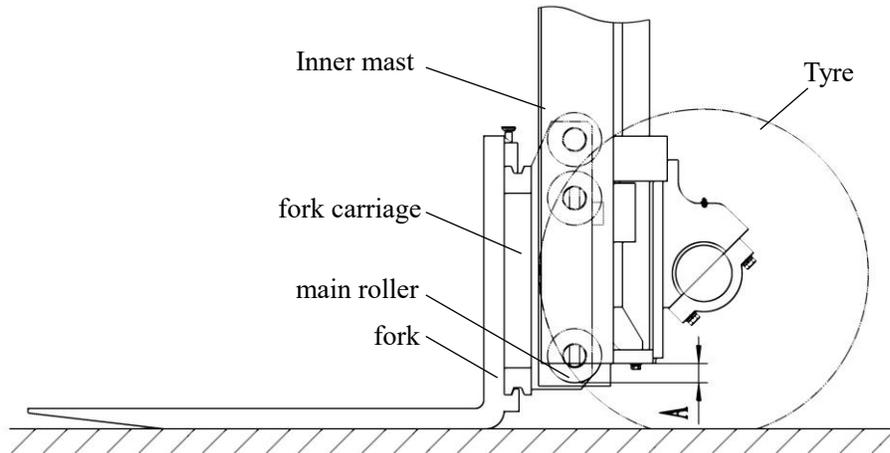

Figure 2-72
7.5.2 Height adjusting for fork carriage(figure2-72)